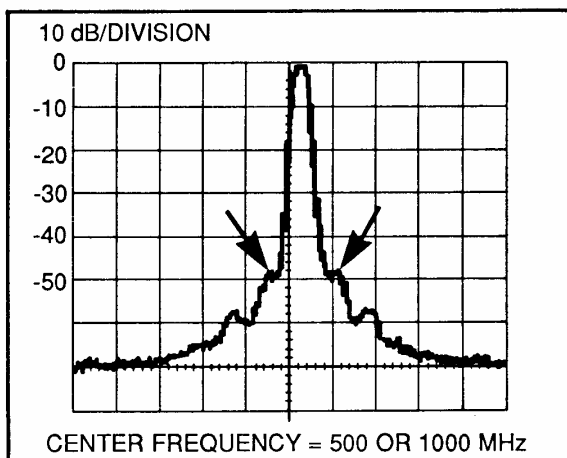

Figure 5-6. 6400 Output Signal and Close-in Sidebands
- (1) Adjust TUNING to center the source output frequency on the CENTER FREQUENCY graticule line.
- (2) Adjust the REFERENCE LEVEL control to place the top of the waveform on the REFERENCE LEVEL graticule line.
- (3) Set FREQUENCY SPAN/DIV to 20 MHz.
- (4) Observe the display; it should resemble that shown in Figure 5-6.
- (5) Set FREQUENCY SPAN/DIV to 10 ms (zero span) and readjust TUNING to place the trace on the REFERENCE LEVEL graticule line.
- (6) If applicable, position AUTO STABILIZER to ON; if necessary, readjust the TUNING control to place the trace on the REFERENCE LEVEL graticule line.
- (d) Adjust the FREQUENCY SPAN/DIV and RESOLUTION BANDWIDTH controls to display the two sidebands of the 6400 output-signal (Figure 5-6).